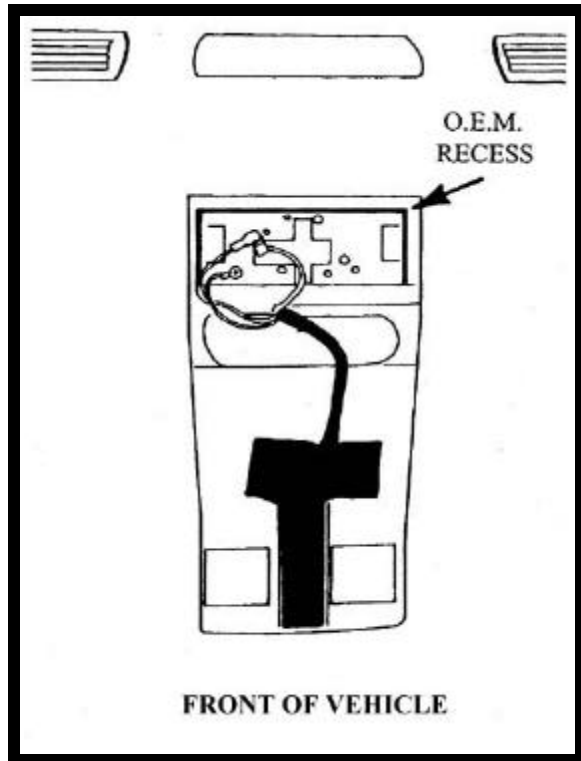

FIGURE 7
6. Install the rear mounting bracket (item 5 pg 2) in the O.E.M. dome light area. Align the front mounting tabs with the openings in the metal inner roof openings previously used to support the rear pod retainers. Slide bracket to rear of vehicle until flange contacts rear edge of recessed area. See Figure 7.